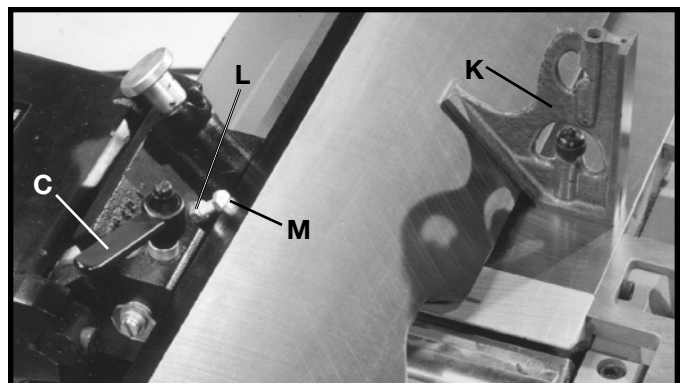

Fig. 37
5. Tilt the fence outward as far as possible and using a combination square (K) Fig. 37, check to see if the fence is tilted outward 45 degrees, as shown. If an adjustment is necessary, loosen lock handle (C) Fig. 37. Loosen locknut (L) and turn adjusting screw (M) until the fence is at 45 degrees to the table. Then tighten locknut (L) and lock handle (C).